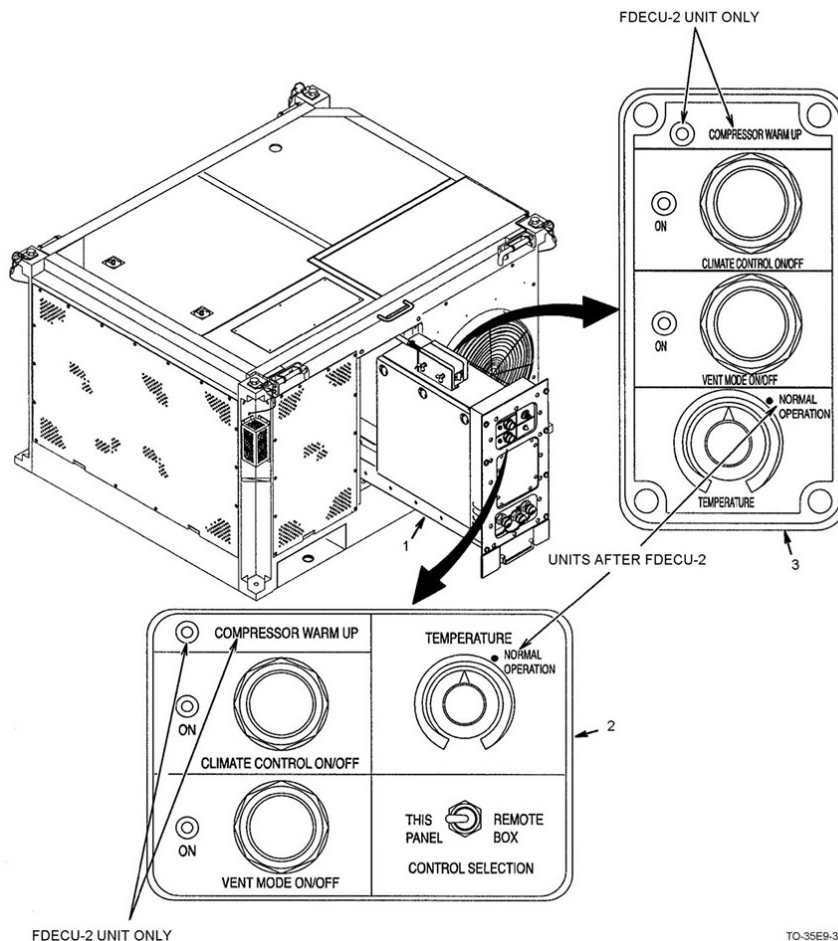

Figure 5-31. Control system.
A control system is shown in figure 5-31. The power box (1) is where the incoming power supply is connected and distributed to the various components in the FDECU. Power distribution is controlled by various relays and protective circuits. The control box (2) contains the control circuit board as well as the unit mounted operator controls and indicators. The control circuit board monitors the various sensors and operator controls in the FDECU and controls the power distribution relays as necessary. The remote box (3) duplicates the operator controls and indicators on the control box and can be remote mounted within the limits of the attached 35 foot interconnecting cable.